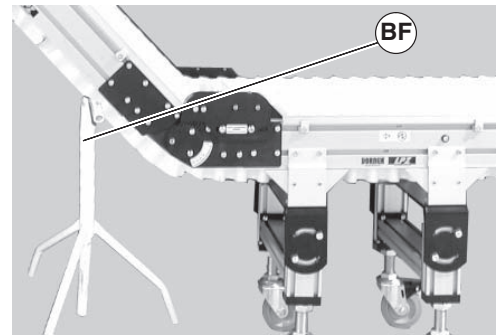

Figure 50
2. Place temporary support (Figure 50, item BF) under conveyor sections.